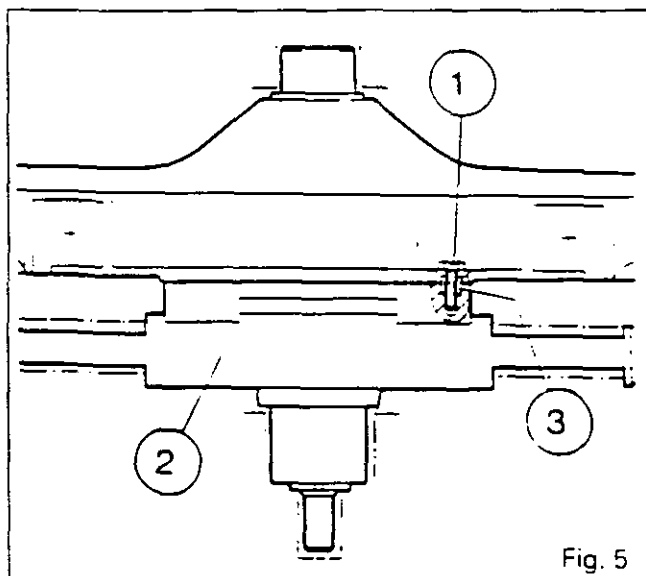

Fig. 5
15. Remove the bolts (1) and detach the steering cylinder (2), taking care not to lose the centring bushes or the rings (3) (Fig. 5).